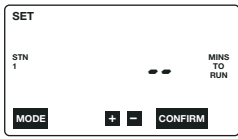

Figure 8
- Push CONFIRM button two more times and NEXT button once to move past the time/day setting and the watering days. STATION (STN) 1 will show to indicate which station is being set. MINS TO RUN will show with two digits or "- -" flashing. (See Figure 8)